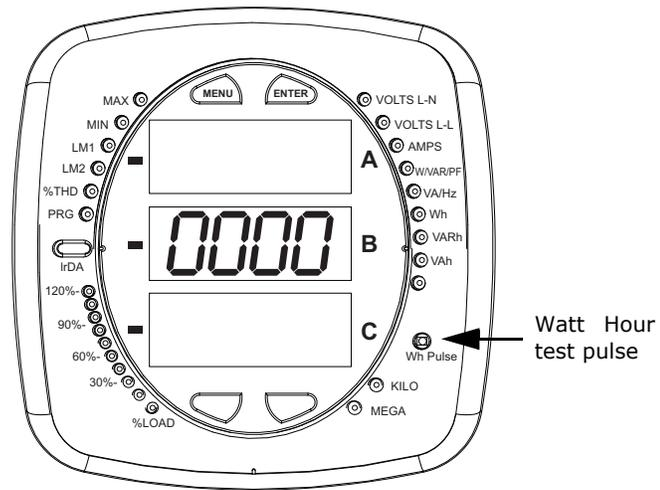

Figure 12-1: Watt Hour Test Pulse
- Figure 12.1 shows the location of the pulse.